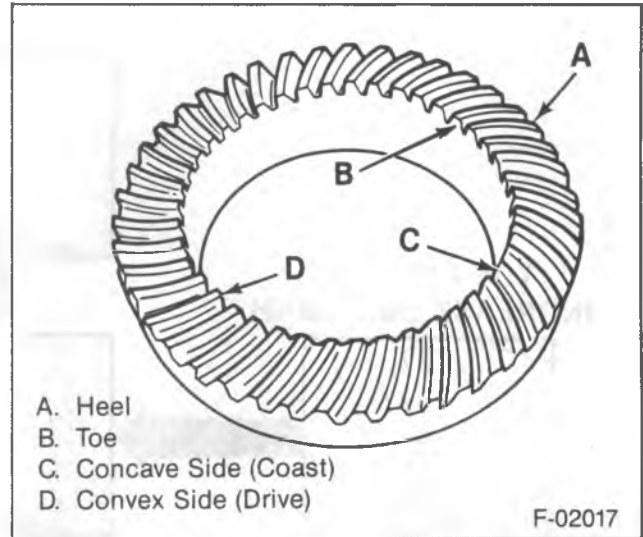

Figure 20—Gear Tooth Nomenclature
1. Wipe all oil out of the carrier, and carefully clean each tooth of the ring gear (figure 20).